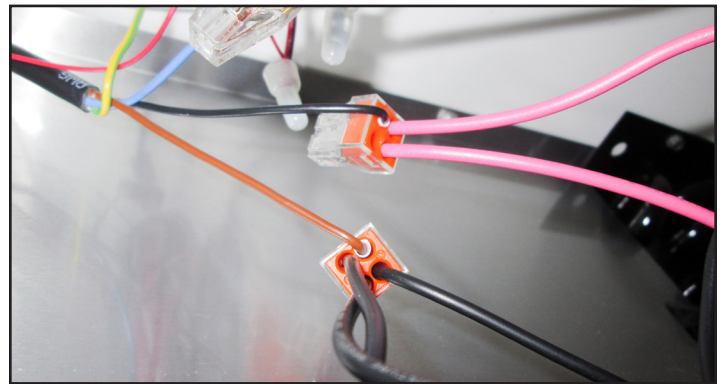

Fig. 2. EBM fan motor original black and brown connections.
2. Cut the **black** and **brown** fan motor wires 1" (25.4 mm) from their respective connectors. See fig. 2.